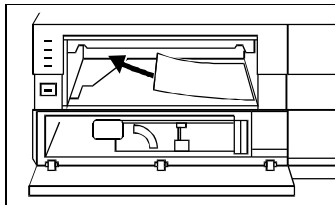

Figure 6-39. Removing the Jammed Paper
4. Remove the jammed paper (Figure 6-39).